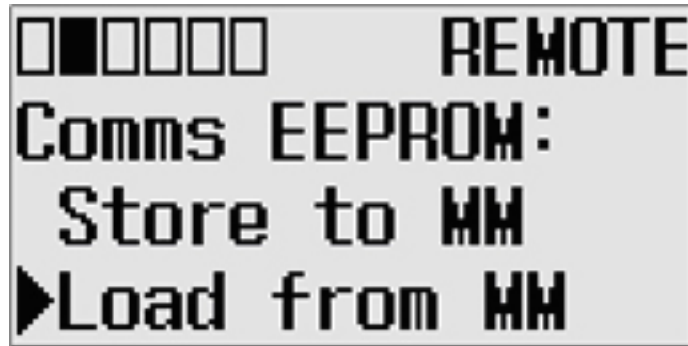

Figure 8 Comms EEPROM Menu Screen “Load from MM” Selected
7. Use the Down key to select the “Load from MM” menu option and then press the “OK” key (refer to Figure 8 Comms EEPROM Menu Screen “Load from MM” Selected).